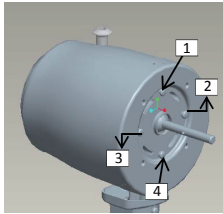
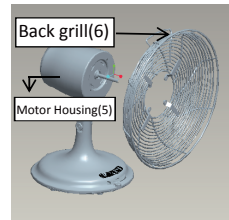

Figure.1
Figure.2
2. Unscrew the 4 Grill Mount Screws(1)(2)(3)(4) on the front of the motor. Figure 1. Place the back grill against the motor housing(5), Figure 2. And line up the 4 tabs on the back of the grill(6) to the 4 screw holes on the front of the motor. Make sure the Handle on the back of the back grill is facing up.